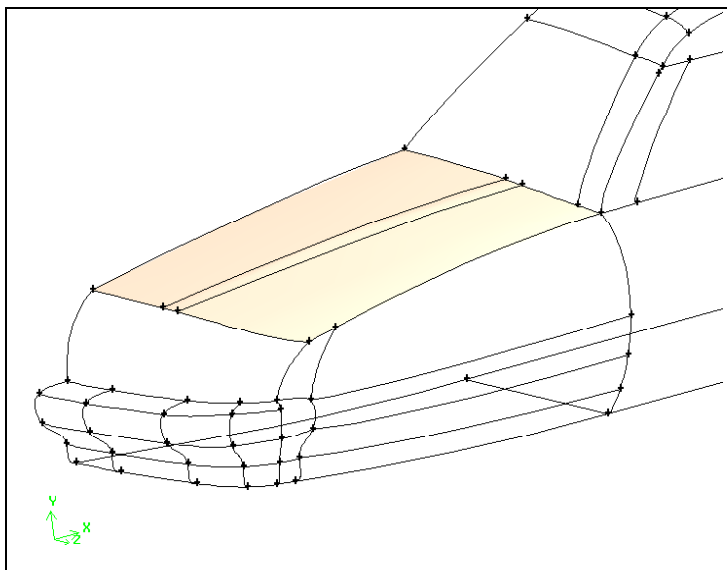

Figure 6-5: Three faces on hood of sedan
- b) Select (pick) the three faces on the top of the hood as shown in Figure 6-5.